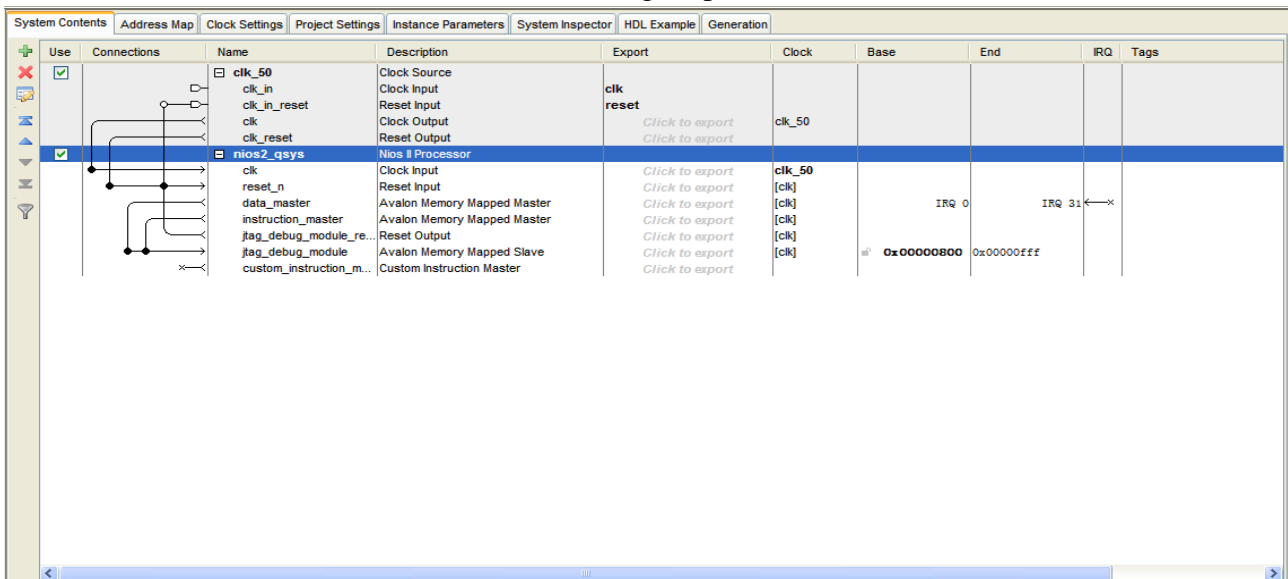

Figure 1-20 Connect the clk and clk\_reset
11. Connect the **clk** and **clk\_reset** as shown in Figure 1-20. (clicking the hollow dots on the connection line. The dots become solid indicating the ports are connected.)